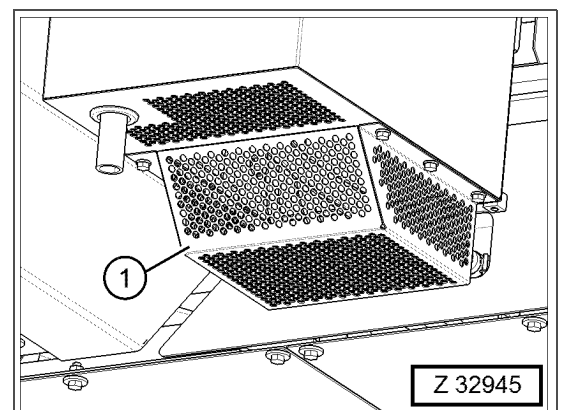

Fig. 3-399 View from below
9. Disassemble the cover (Fig. 3-399, Pos. 1).